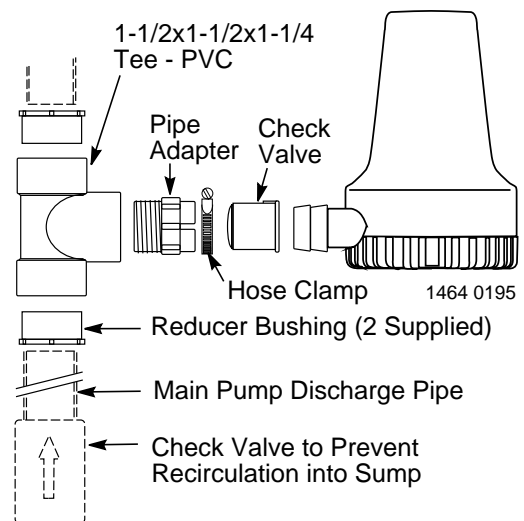

Figure 2 – Installation Diagram
6. Thread adapter into tee (see Figure 2) . When installed, molded-in 'up' should be on top.